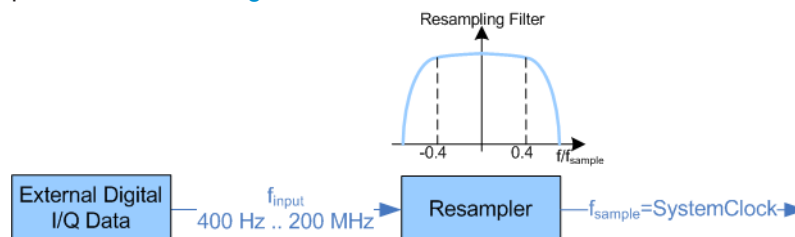

Figure 7-30: Resampling of external digital baseband signals
- External input signals with sample rates different than the system clock are resampled, as shown in Figure 7-30.
- A baseband signal with a sample rate that is smaller than the used system clock is interpolated (see Figure 7-30). The resulting modulation bandwidth is calculated as $Sample\ Rate * 0.8$, i.e. with a sample rate of exactly 200 MHz, the modulation bandwidth is 160 MHz.